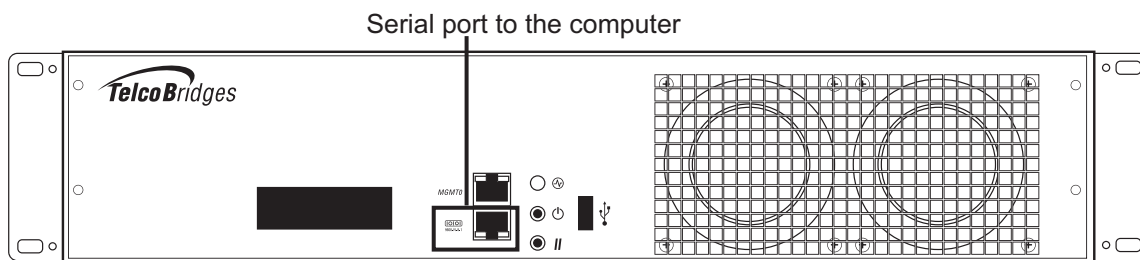

Figure 3.1
1. Connect a CAT5 RJ-45 (male-male) cable (supplied with unit) between the com port of your computer and the serial port (labelled 10101) of the 3200 series gateway as shown in figure 3.1 on page 56. See Section A.2 on page 64 for a RJ-45 console wiring diagram.